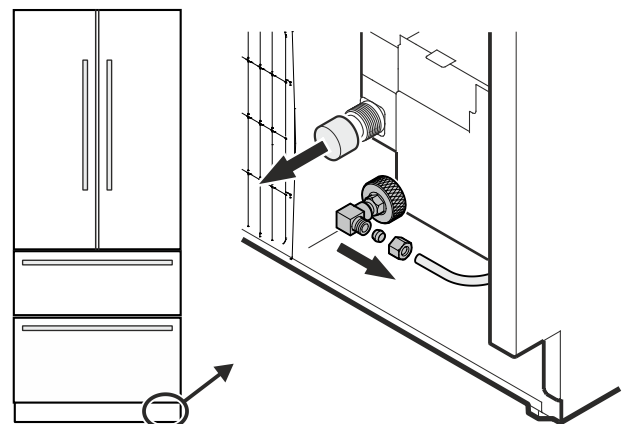

Figure 17
5. Remove the cover from the solenoid valve (**Figure 17**).